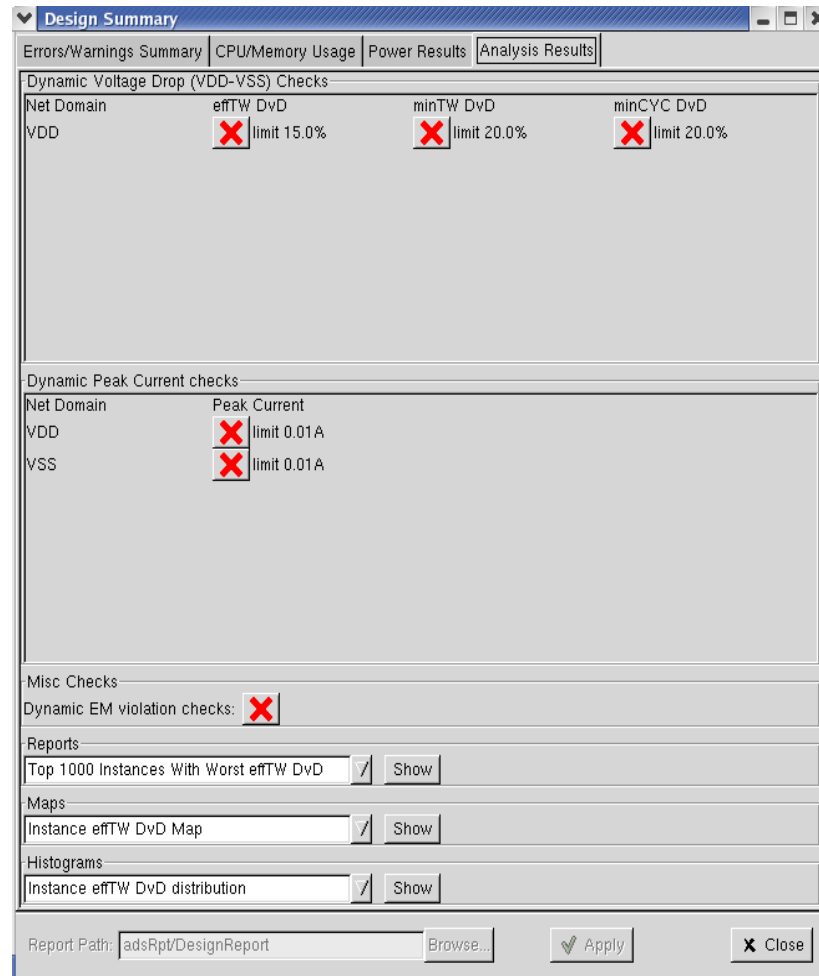

Figure 6-4 Dynamic analysis report from Design Summary
- b. **Dynamic analysis** - the Analysis Results report page shows results of Dynamic Analysis Voltage Drop (Vdd-Vss) Checks, Dynamic or Pad Peak Current Checks, and Miscellaneous checks, such as Dynamic EM violations, as shown in the example in Figure 6-4.